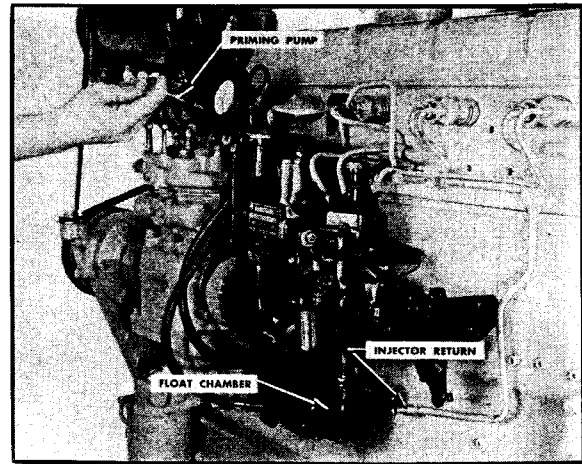

Fig. 12-100. Priming float chamber
4. Open priming pump, and pump until solid fuel flows out this opening in the fuel pump. (Fig. 12-100).